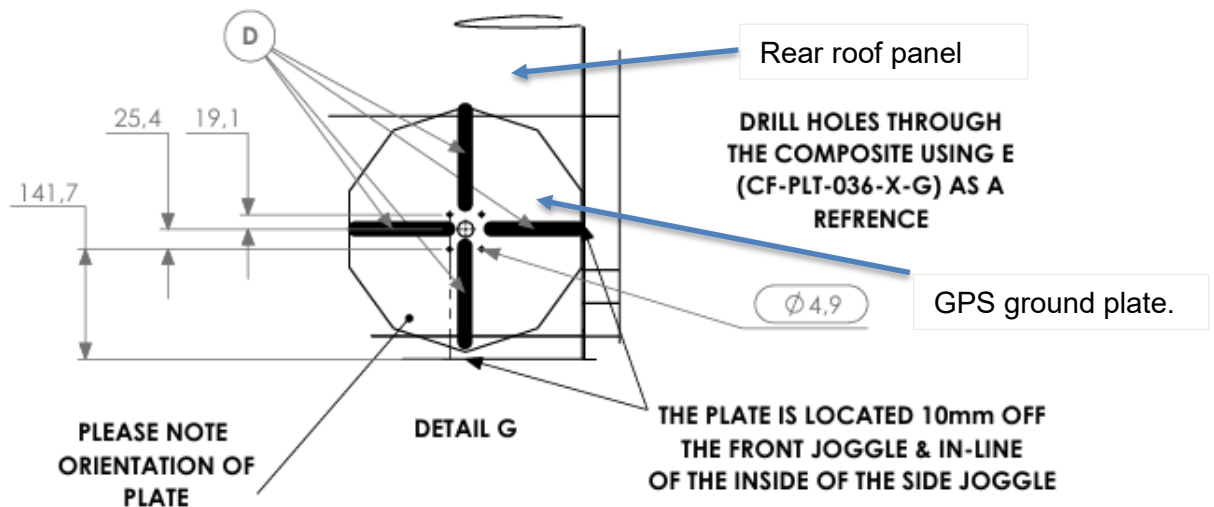

Figure 22: Showing how to bond the GPS ground plates on the rear roof panel.
Step 1: Use Figure 22 to see how to bond the GA 56 and GA 35 ground plates.